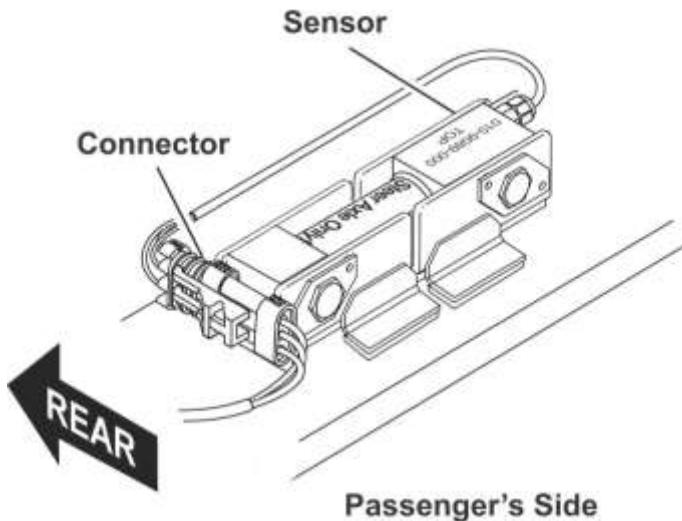

Fig. 10: Driver's side orientation
3. **Driver's side sensor orientation:** Facing toward the rear of the vehicle, route the cable from the connector assembly so it runs to the right of the steer axle sensor assembly (Fig. 10).